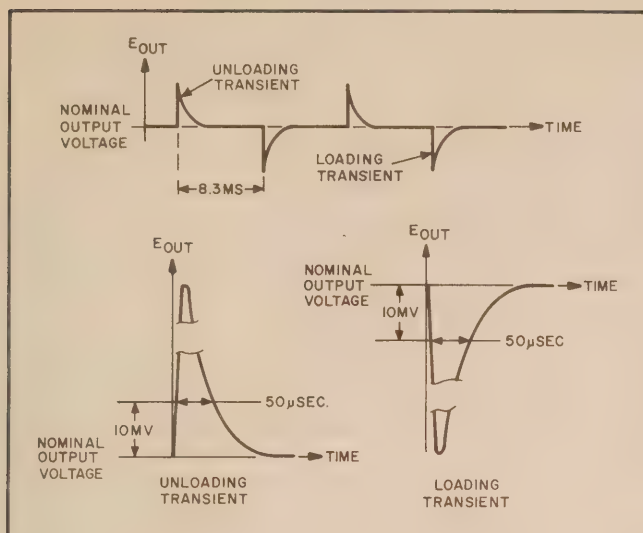

Figure 5-6. Transient Recovery Time Waveforms
k. Starting from the major graticule division representative of time zero, count to the right 50μsec and vertically 10mV. Recovery should be within these tolerances as illustrated in Figure 5-6.